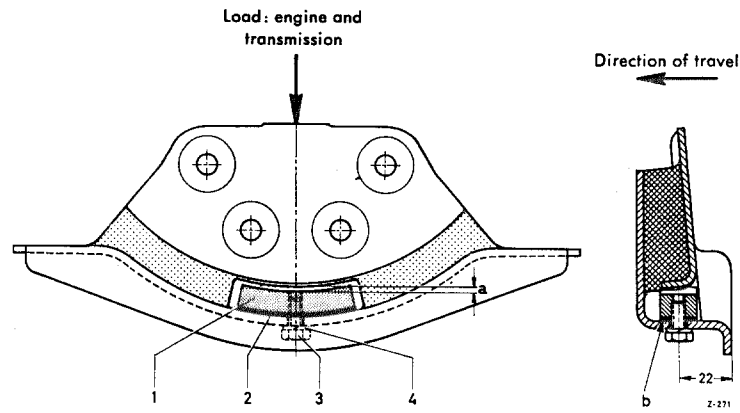

Fig. 24-1/4
Model 219 has an additional stop piece (1) in the rear rubber mounting in order to limit the vertical movement of the engine (Fig. 24-1/4). This stop piece can also be installed subsequently in cars of Model 220 a if complaints are received about a rattling of the gear shift lever and in particular cases about the 3rd and 4th gear slipping out as a result of vertical and horizontal engine movements.